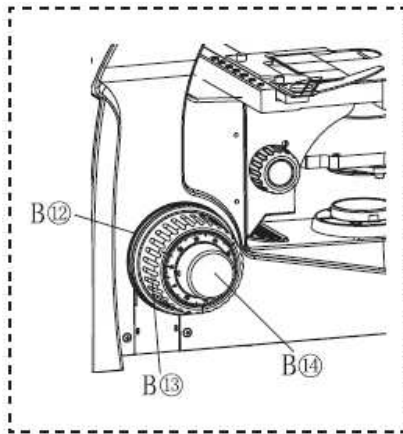

Fig. 8
⊙ Rotating the coarse or fine focus adjustment knob(B ,B in Fig.8) toward the front lowers the stage and toward the rear raises the stage.
b) Adjusting the Coarse Adjustment Knob Tension(Fig.8)
★ Always use the rotation tension adjustment ring(B in Fig.8) to control the rotation tension of the coarse adjustment knob. The tension of the coarse adjustment knob has been pre-adjusted to optimum tension, but this can be changed as required. Turn the rotation tension adjustment ring toward the rear to increase or toward the front to decrease the knob's tension. If the stage lowers by its own weight or the focusing obtained with the fine adjustment knob is lost soon, the tension is set too low. In this case, turn the rotation tension adjustment ring toward the rear to increase the tension.